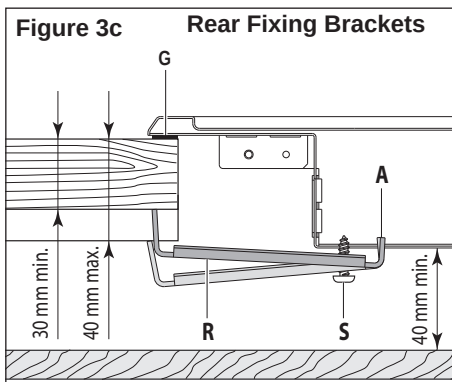

Figure 3c
- Fasten the brackets “F” and “R” to the appropriate socket holes, without tightening the screws “S” for the moment. Make sure that the tabs are mounted correctly, as shown (figs. 3c, 3d). Rotate the tabs so that the cooktop can be put into the cutout.
- Put the brackets “F” and “R” into place; tooth “A” of the brackets should go into the hole (figs. 3c, 3d).